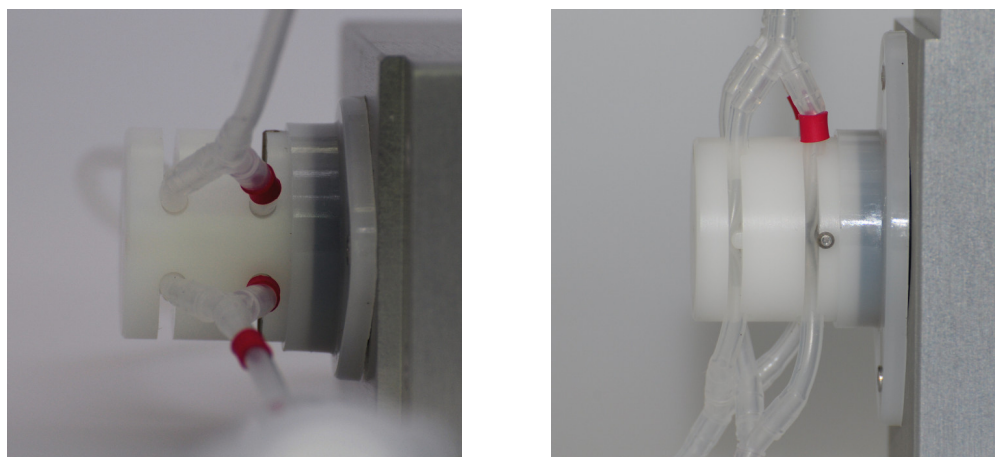
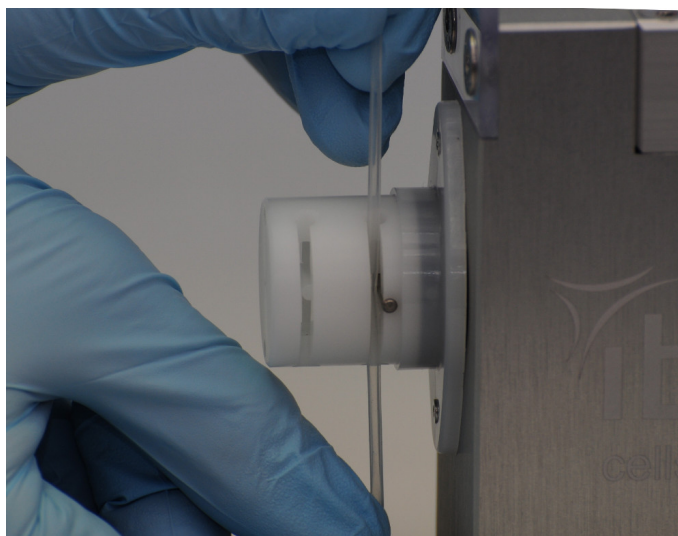

Figure 25: Top view (left) and side view (right) of properly mounted tubing in the pinch valve.
Figure 26: Move the tubing up and down while stretching for easy placement into the valve slots.
6. Check the correct position of the tubing in the openings of the pinch valve (Figure 25).
For easy mounting, stretch the tubing and move it up and down. Stretch the tubing only between the y-connectors to ensure the tubing is not disconnected (Figure 26).
If the liquid is moving in one or both of the positions, check the insertion of the tubing in the pinch valve. Stretch the tubing and move it up and down for proper placement in the valve's slot (Figure 26). Also check for correct positioning of the tubing (Figure 25). If this action does not correct the problem, contact ibidi or your local distributor.